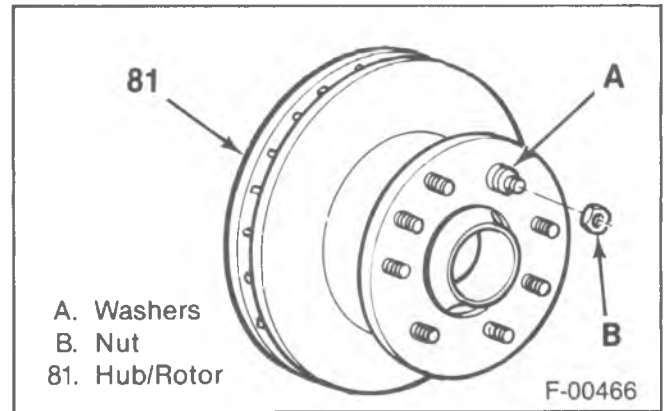

Figure 14—Installing the Hub Bolts
1. Wheel hub bolts (74) into the hub/rotor (81).
- Place four washers onto the bolt, then fasten a nut onto the bolt until the nut bottoms on the washers (figure 14).
- Tighten the nut until the bolt fully seats into the hub/rotor (81).